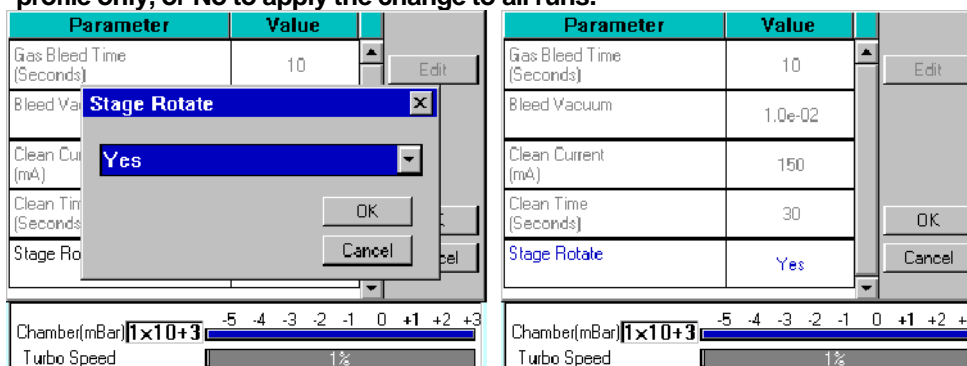

Figure 3-6. Changing the Stage Rotate system property
5. Tap on the value of the system property you want to change (in this case, *Stage Rotate*). Amend the setting as required and confirm the change by tapping on the OK button. Tap on the Cancel button to cancel any change (see Figure 3-6).